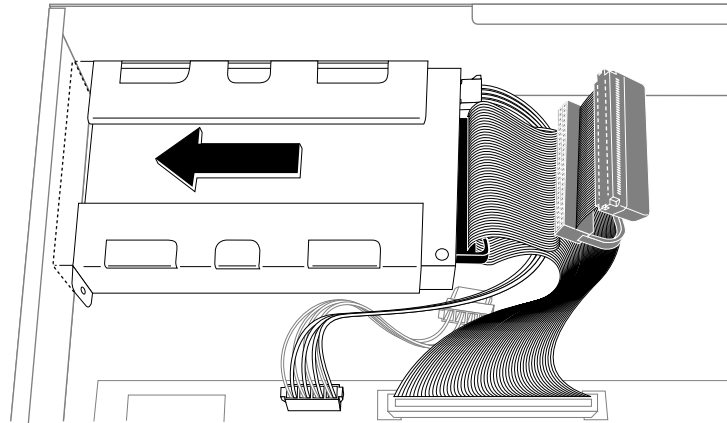

Figure 9-26 Installing the Replacement System Disk Drive
11. Install the replacement system drive, as shown in Figure 9-26.